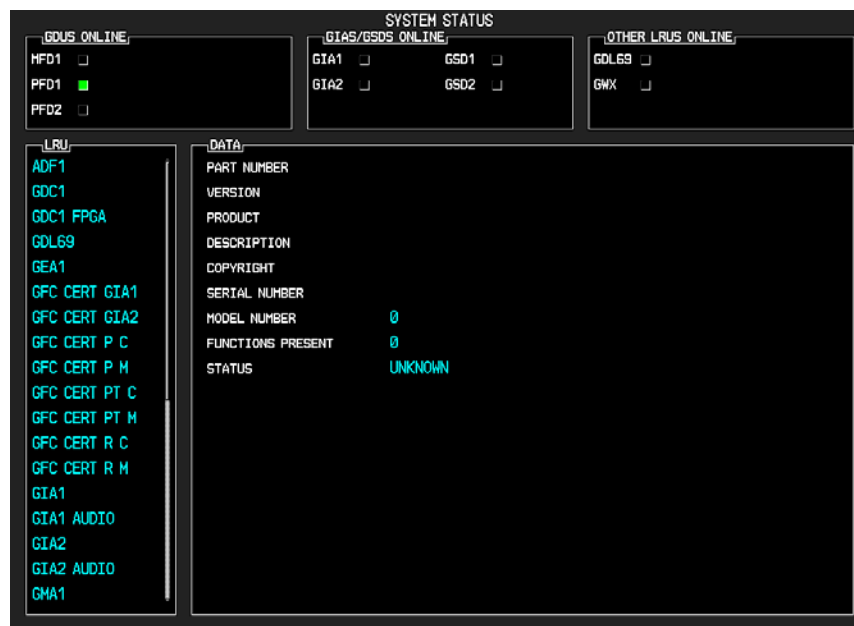

Figure 4-1. System Status Page (Configuration Mode)
2. Repeat step 1 for the MFD. The System Status Page (Figure 4-1) is displayed on the MFD and the PFD.